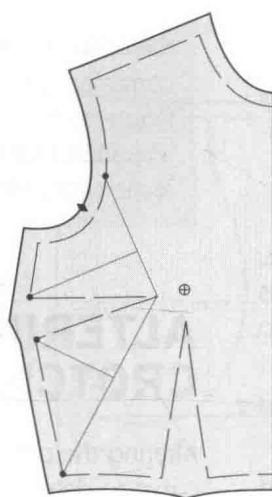

FIGURE 6.31b
- When only the interior is adjusted without changing the length of any seamline, a line will extend from one stitching line to another within the affected area; additional lines are made as necessary to a corner, where the figure variation is the greatest, and through the center of the darts in the area (see Figure 6.31b).